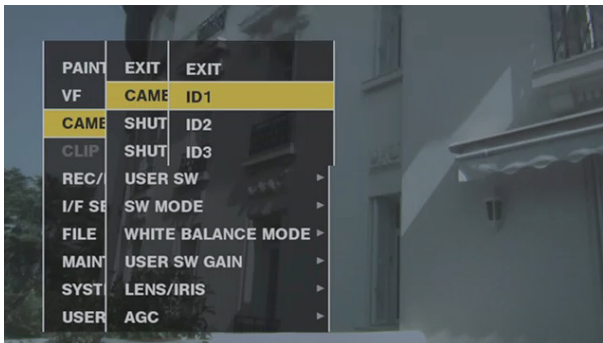

Fig. 1
- 1 Select [CAMERA ID] in the main menu → [CAMERA], and use the jog dial button (or cursor buttons Δ/∇) to navigate to the [ID1] to [ID3] items. (Fig. 1)